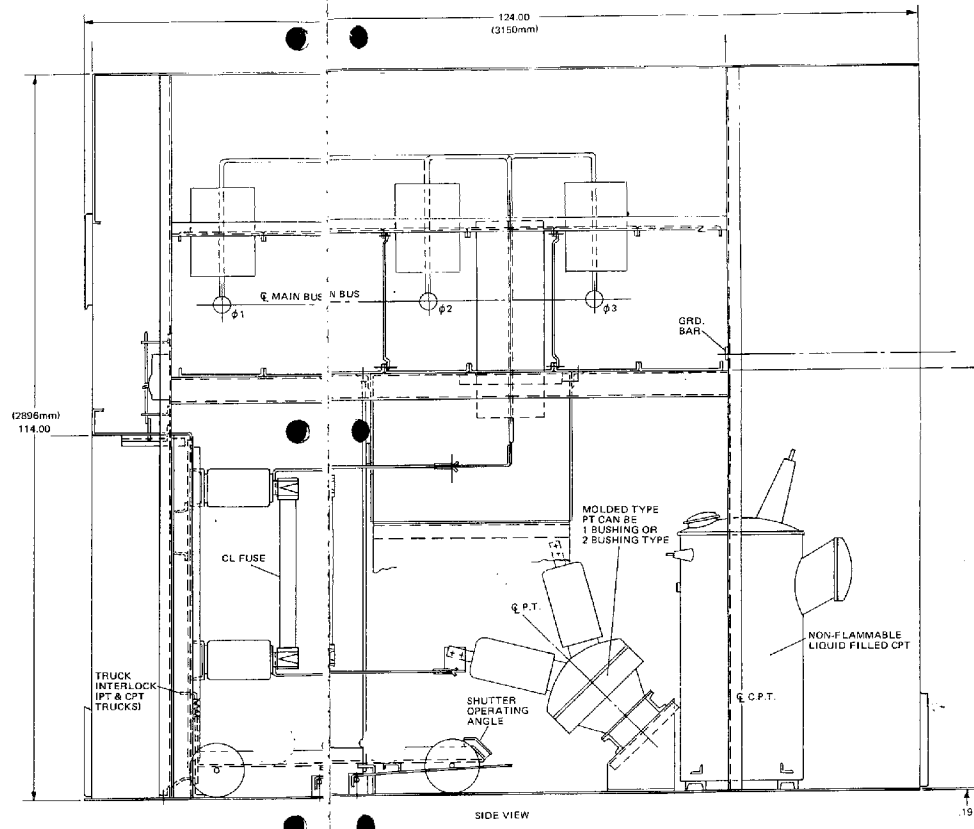

Figure 32. Auxiliary Unit Assembly (Typ.)
Potential and control power transformers are mounted in auxiliary units in a fixed position; the primary fuses are mounted on a removable fuse truck. Fig. 32 illustrates the location of these devices — note that one auxiliary unit can accommodate up to three (3) potential transformers or one (1) control power transformer. PT's are of molded type; CPT is non-inflammable liquid-filled type. When the fuse truck is moved from the connected to the disconnected position, spring loaded grounding fingers automatically ground the PT or CPT primary to remove any charge from the transformers. Truck operated shutters provide a protective barrier between the stationary primary contacts and the operator when the fuse truck is withdrawn from the cubicle.
For CPT applications, an interlock circuit breaker is furnished on the secondary side of the control power transformer to prevent disconnecting the transformer unless the circuit breaker is open. This breaker is located in the center of the front barrier directly over the fuse truck. Only when this breaker is opened (disconnecting the load from the transformer) can the fuse truck be moved from the connected position (Fig. 32).